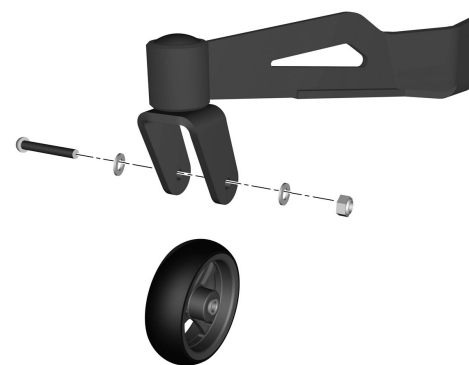

Figure 401 . Support wheel.
2. Fit the wheel with the screw, washers and nut. Screw, washers and nut must be fitted from the outside in. Tighten the screw using a torque wrench. Tightening torque: 13.3 lb.ft. See fig. 401.